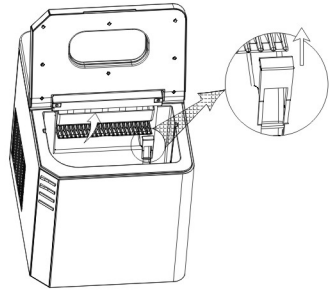

Fig. C1
- a. Lift up the grille and take out Filter "A" to clean with water only (Fig. B and Fig. C1).